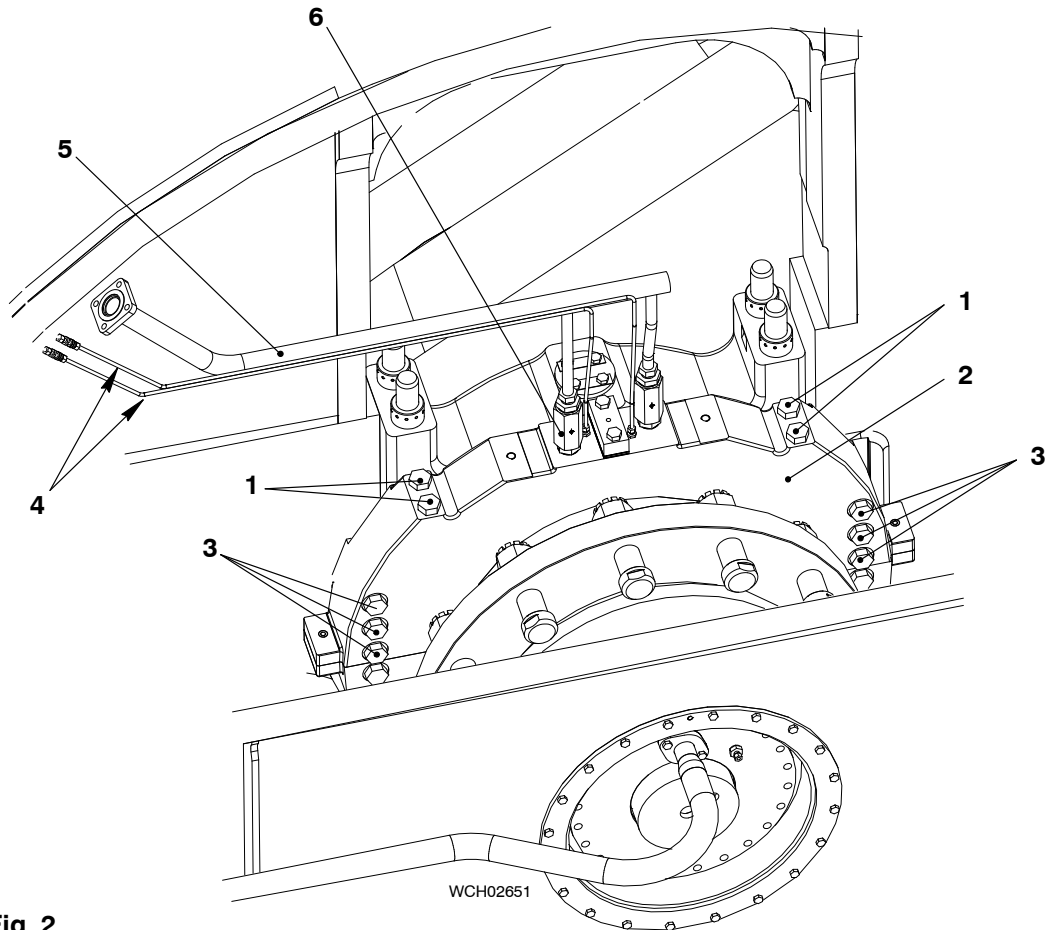

Fig. 2
- 1) Remove the two pipes (4, Fig. 2).
- 2) Remove the oil inlet pipe (5) and the two non-return valves (6).
- 3) Remove the six bolts (3) and four screws (1) from the top cylinder half (2).